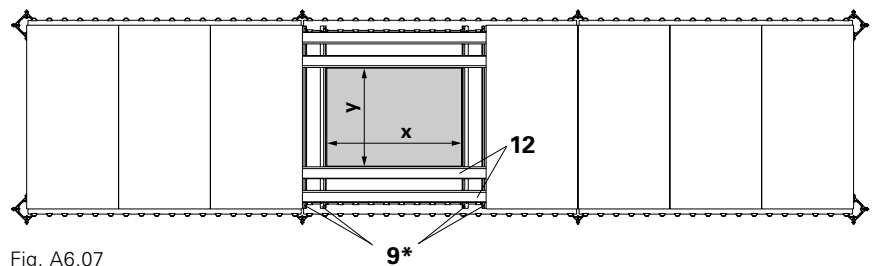

Fig. A6.07
Insert Edge Beam SRT-2 150 (9\*) in a suspended position. Lay Filler Timber SPH 150 (12) in a flat position. Permissible widths of influence for flat Filler Timber SPH, see Table A6.02 on next page. (Fig. A6.07 + A6.08)